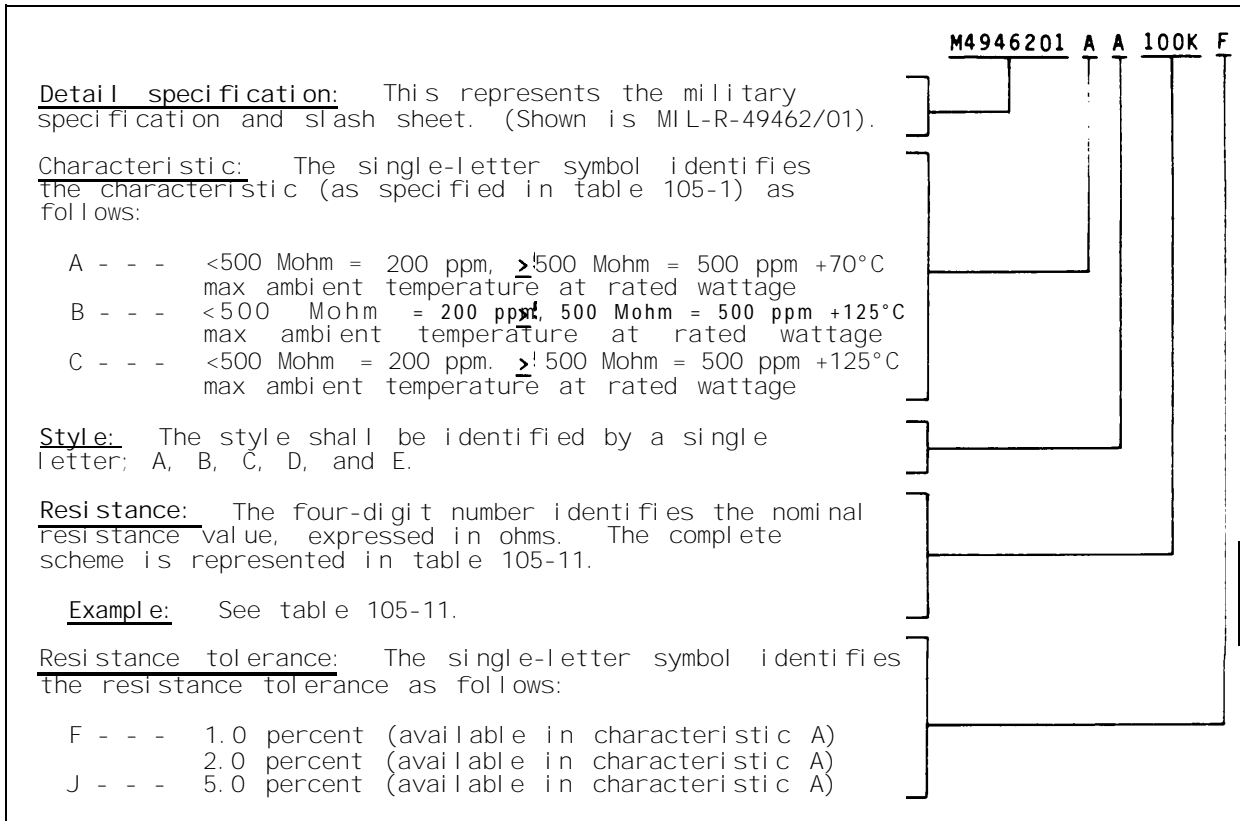

FIGURE 105-2. Type designation example for styles RHV30 through RHV35.
3. ITEM IDENTIFICATION (see figures 105-2 through 105-4).
3.1 Type designation. The type designation is used for identifying and describing the resistor as shown on figure 105-2 or figure 105-3.